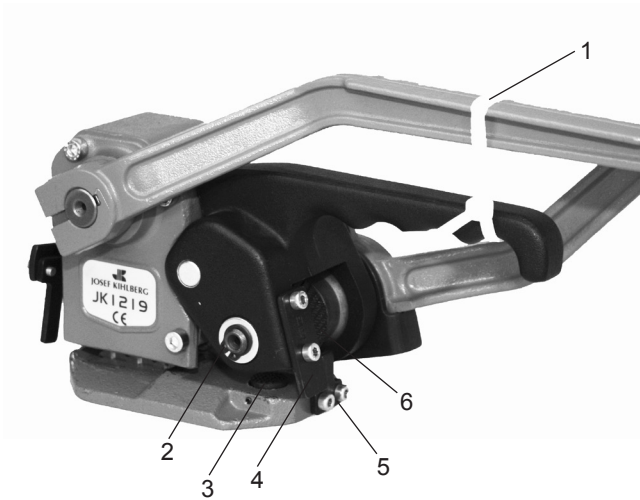

Fig. 10
- Use plastic strap (Fig. 10/1) that fits the rocker lever in its upper position and remove the two rear strap guides (10/4 and 10/5).